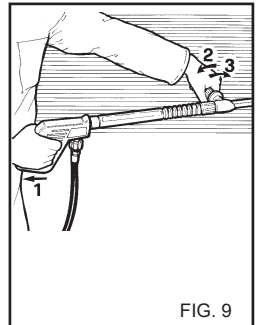

FIG. 9
**BRUKE DET DOBLE MUNNSTYKKET (fig. 9)**